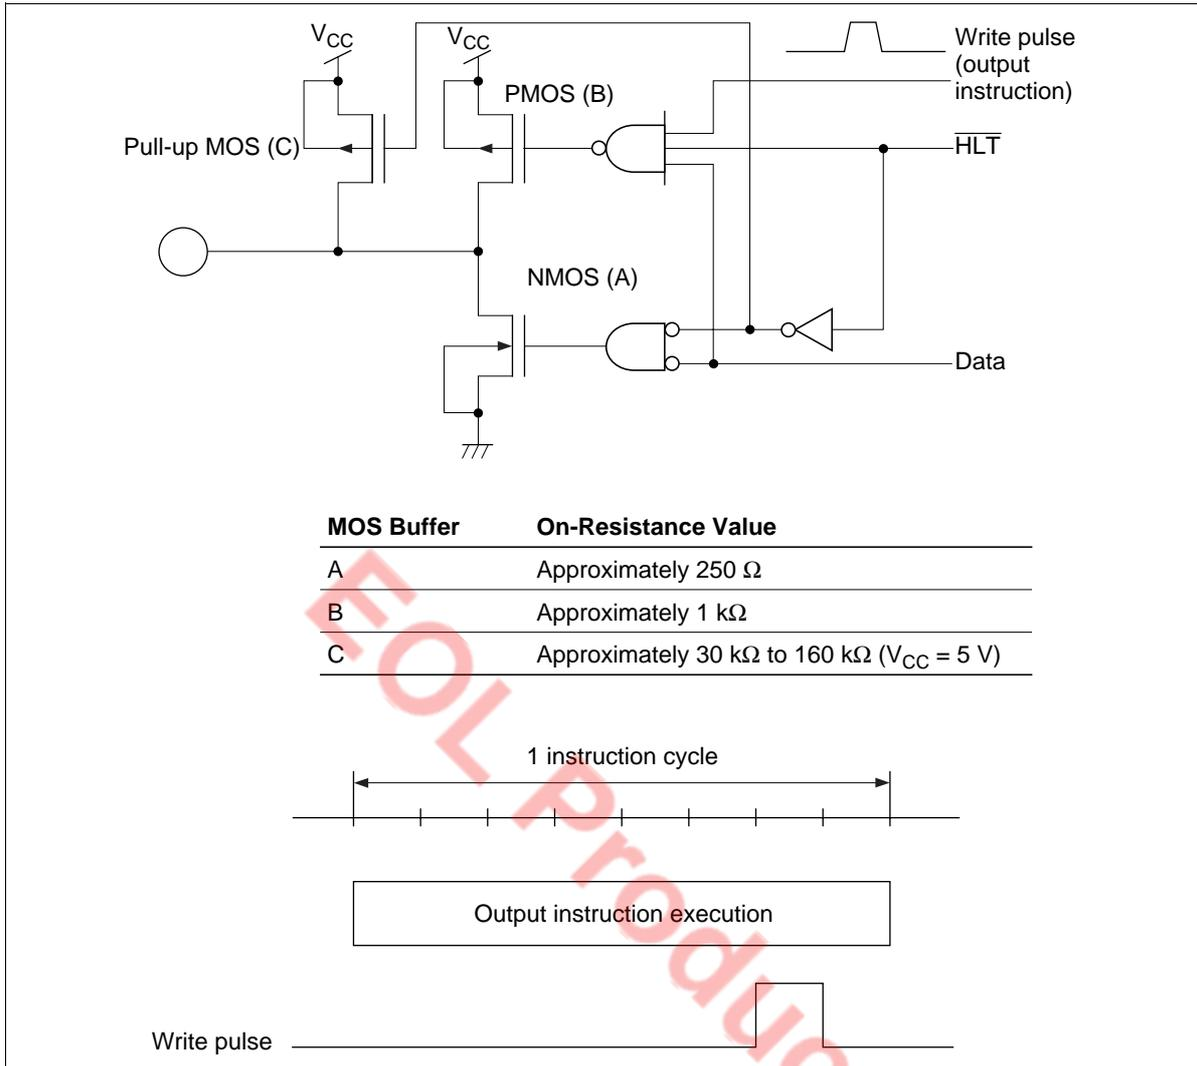

Figure 15 Output Circuit Operation of With Pull-Up MOS Standard Pins
**Output Circuit Operation of With Pull-Up MOS Standard Pins:** In the standard pin option with pull-up MOS, the circuit shown in figure 15 is used to shorten the rise time of the output.